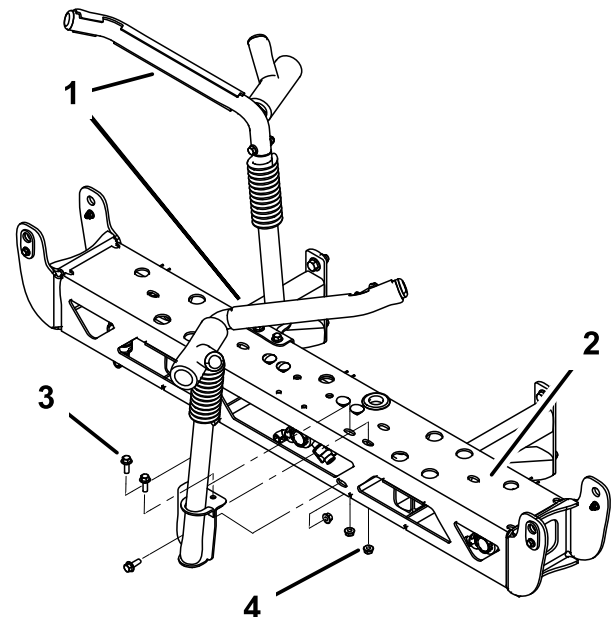

Figure 12
1. Install the boom transport cradles to the center boom using six bolts (3/8 x 1-1/4 inches) and six lock nuts (3/8 inch). Orientate them as shown in Figure 12